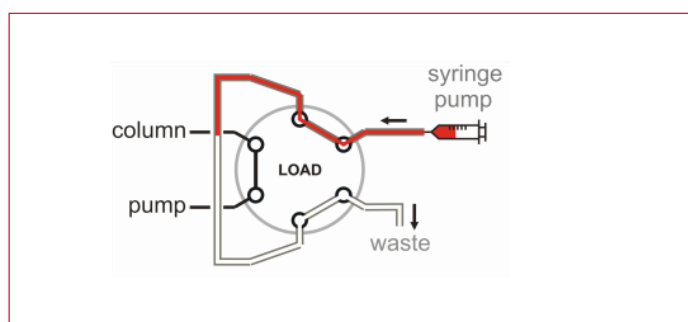

Figure 8: Schematic representation of 'insertion by syringe pump' injection method on a sampling valve
- Insertion by syringe pump** - Disconnect the microdialysis probe from the tubing and fill the syringe with the standard solution instead of perfusion fluid (Fig. 8). Set the flow rate at the same value as used for the experiment with probe